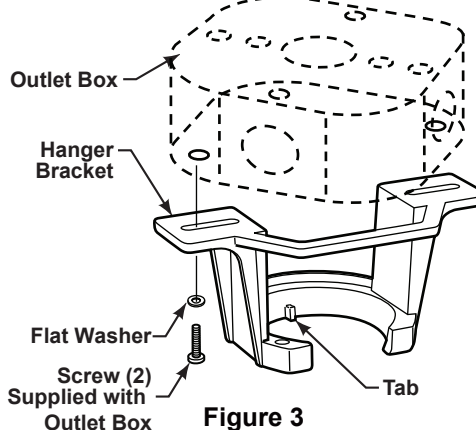

Figure 3
3. Loosen the two set screws in the downrod support of the motor assembly. Route the black, white and blue wires through the downrod. (Figure 3)
- ☐ 1. Securely attach the hanger bracket to the outlet box (not included) using the outlet box screws and washers supplied with the outlet box. (Figure 3)